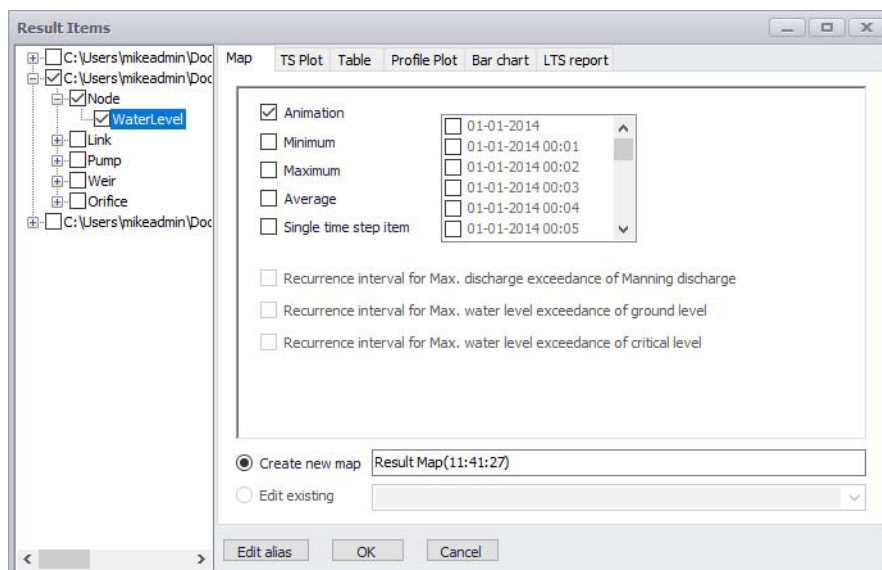

Figure 20.9 The Result Items dialog for creating result presentation documents
- The Result Items dialog appears offering various data presentation options for the result file (Figure 20.9).